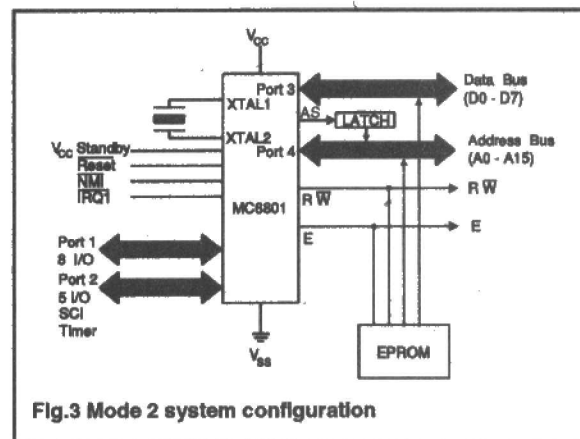

Fig.3 Mode 2 system configuration
The lower address byte has to be latched before feeding into the address bus as in Figure 3. An output signal, the Address Strobe (AS), is provided to enable the latches in IC5 at the correct instant in time.